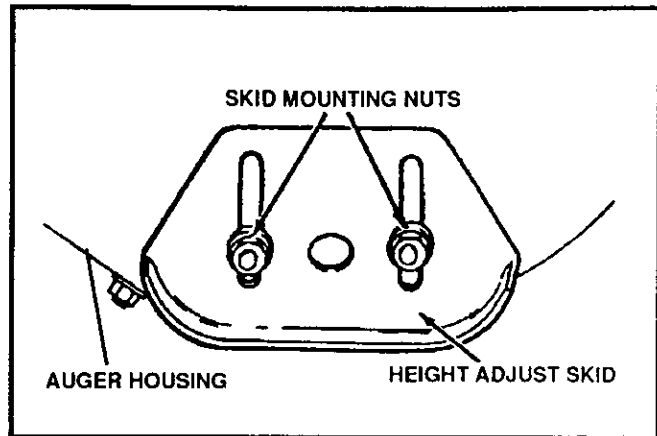

FIG. 1
- Loosen the skid mounting nuts (See FIG. 1) and adjust the skids up to bring the front of the snow thrower down. Re-tighten the mounting nuts.